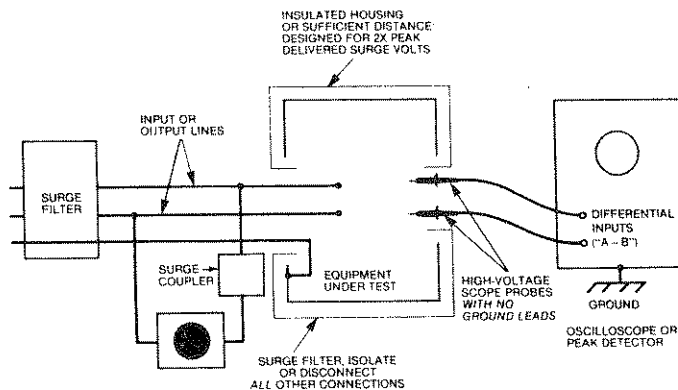

Figure 9.
3. FIGURE 9. ABOVE, TAKEN FROM KEYTEK APPLICATION NOTE AN106, SHOWS THE CORRECT METHOD FOR MONITORING WITHIN SURGED EQUIPMENT. REFER TO AN106 (ENCLOSED) FOR FURTHER, DETAILED APPLICATION INFORMATION.